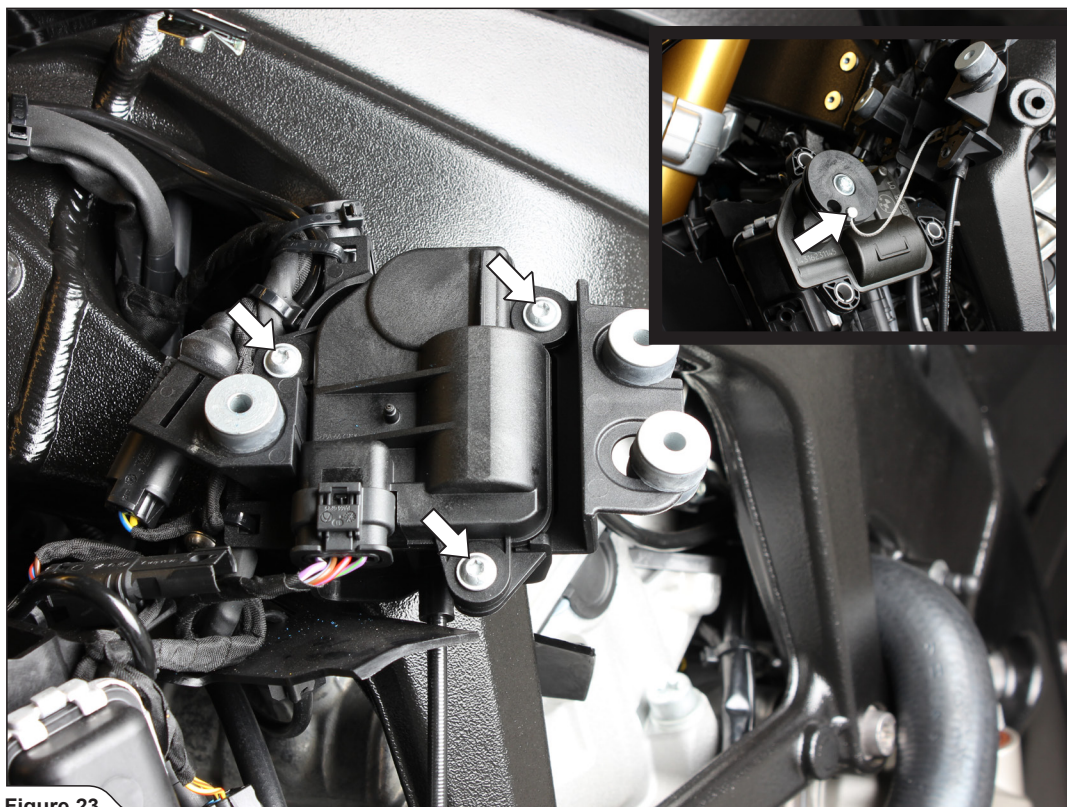

Figure 23
17. Unscrew the servo motor's cover, remove the cables and reinstall the cover (Figure 23).